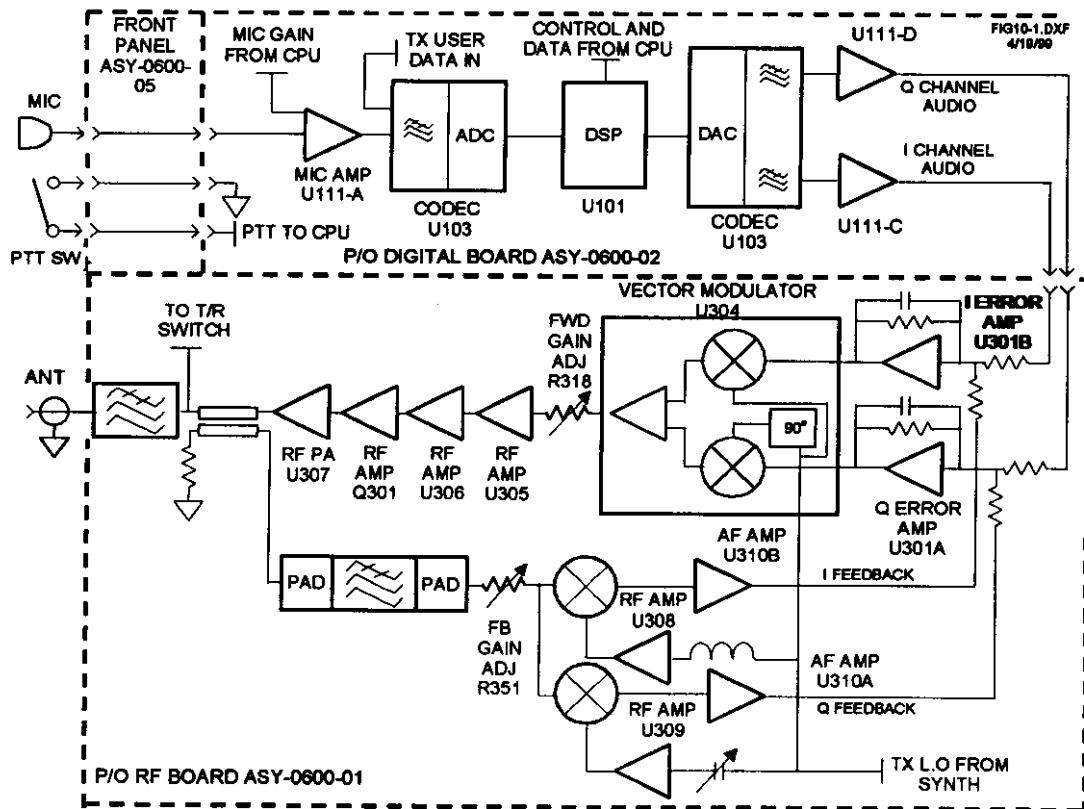

Figure 8.1 ESP604 Transmitter Block Diagram
8.1 TRANSMITTER (See Figure 8.1)
See Figures 8.1 and 8.2 for transmit and receive DSP block diagrams.